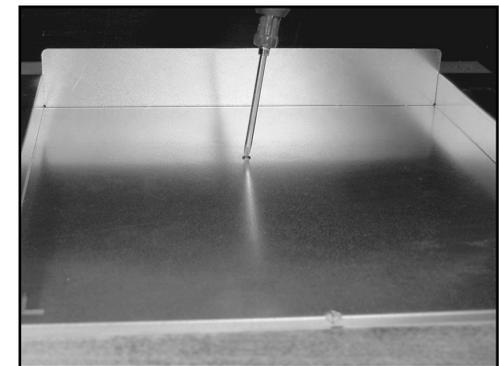

Fig. 07
5. Drill  $1/8''$  pilot holes in the cabinet using the base as a template and install a screw through the base into the cabinet to prevent the base from shifting (Fig. 07).